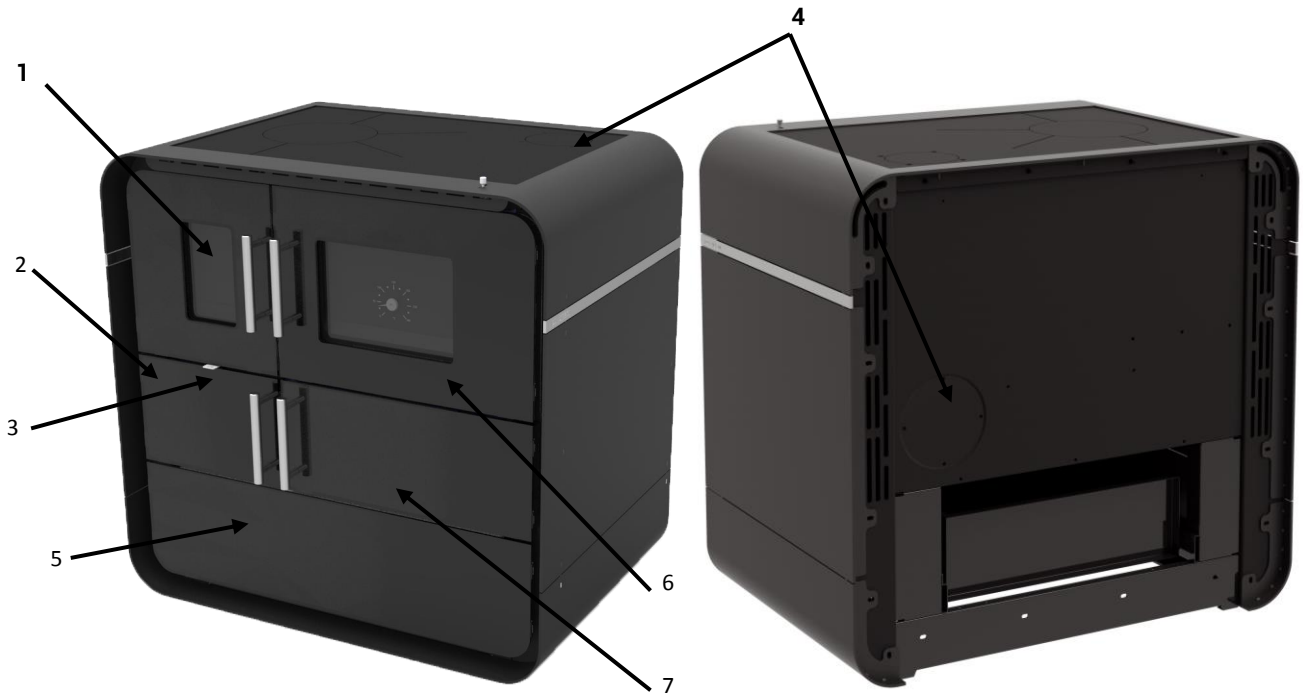

Figure 1 - Futuro L
- Power control (Figure 1 position 3) should open and close the valve by means of regulation button.